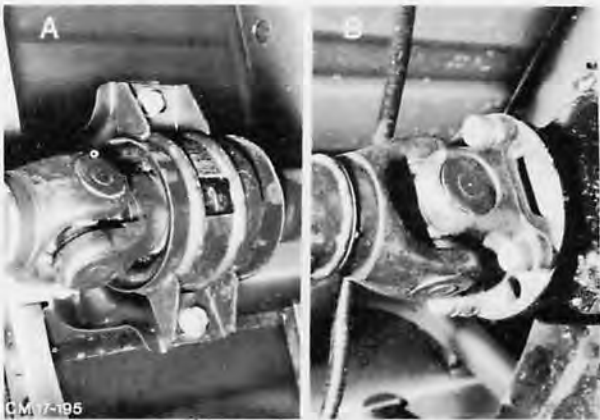

Fig. 16. Driveshaft fixing
4. Remove driveshaft assembly, Fig. 16 (6 bolts). To prevent oil loss slide driveshaft stub or output shaft dust cap into gearbox extension housing, Fig. 17.